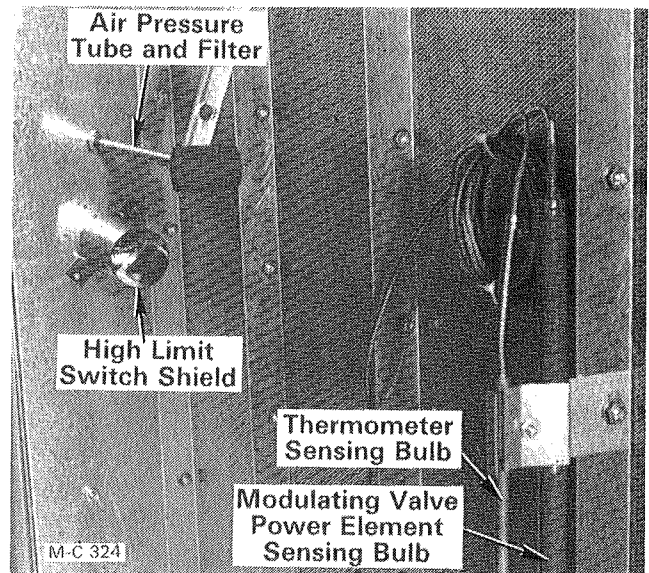

Figure 43
6. Clean out the high limit switch shields (not on dryers above S/N 46798). Remove the air pressure switches and clean the tube and filter, see Figure 43.